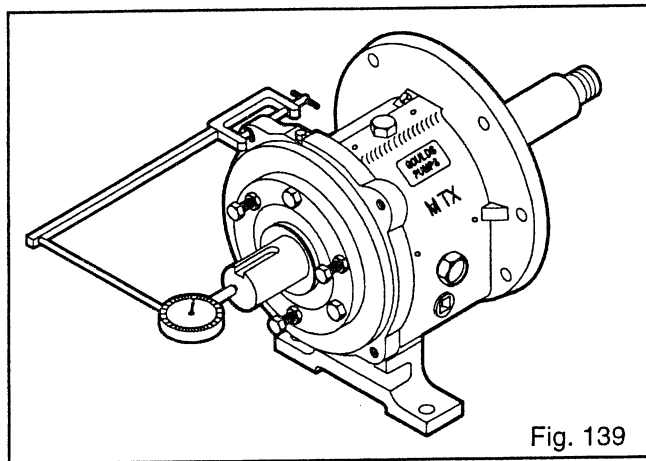

Fig. 139
2. Check shaft end play. Move shaft forward then backward by hand, noting indicator movement. If total indicator reading is greater than *Table 10* values, disassemble and determine cause (Fig. 139).